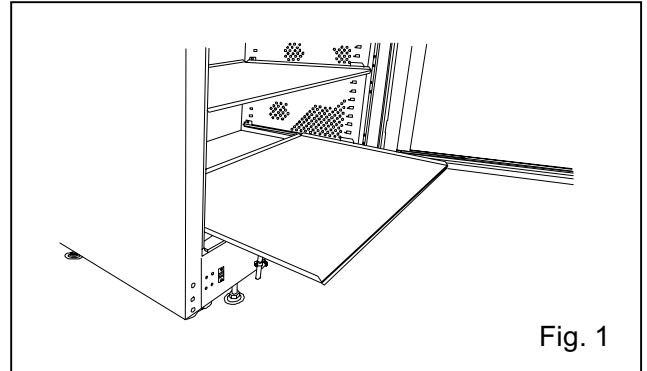

Fig. 1
1. Open the outer door and remove the lowest shelf. See Fig.1.